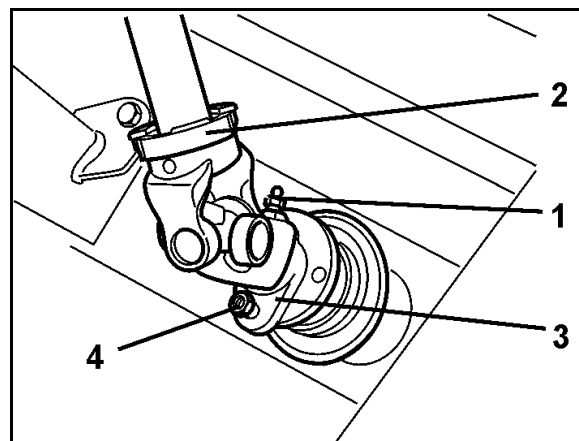

Fig. 90
1. Release the tapered grease nipple (Fig. 90/1) in the connection fork (Fig. 90/2) of the PTO shaft – through the opening in the underside of the PTO shaft guard.
2. Remove the shear bolt (Fig. 90/4) between the fork flange (Fig. 90/3) of the PTO shaft and the flange of the gearbox input shaft.